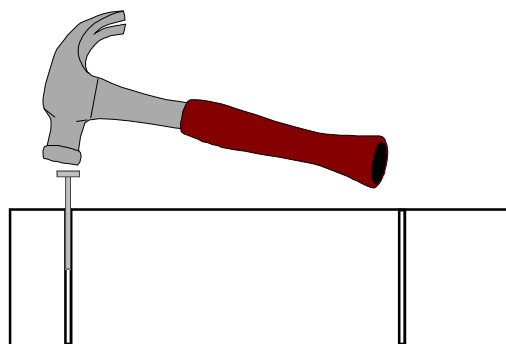

FIGURE 5
2. Sometimes the wood block will split when the axles are inserted into the axle slots. To prevent this from occurring, *before* you build the car, place the block on its side, insert an axle, and use a hammer to *gently* tap the axle into one slot (see Figure 5). Pull the axle back out of the slot by hand (or with a pair of pliers), and repeat the process for the other three slot positions. If the wood block splits, exchange the car kit, or purchase a new block at a hobby store. *If you have nail-type axles, do not insert the axles into the wheels until after the axles are prepared. The burrs on the axles can permanently damage the wheel hubs.*